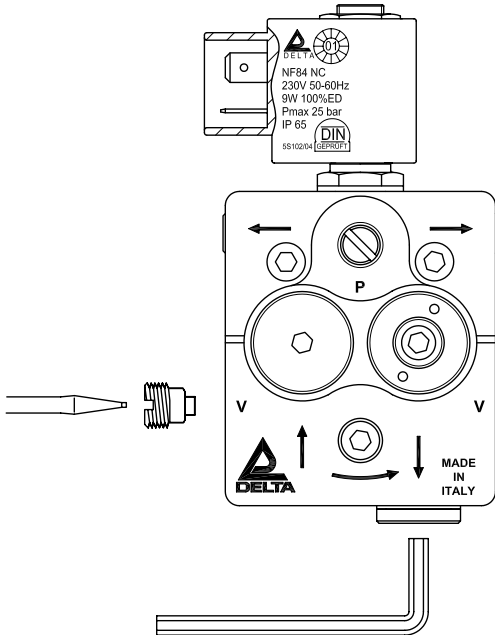

Fig. 1
1. Using a 6 mm Allen wrench, remove the 1/4" plug from return port (Fig. 1).
4. Insert and screw a 1/4" plug into the return port (Fig. 1).